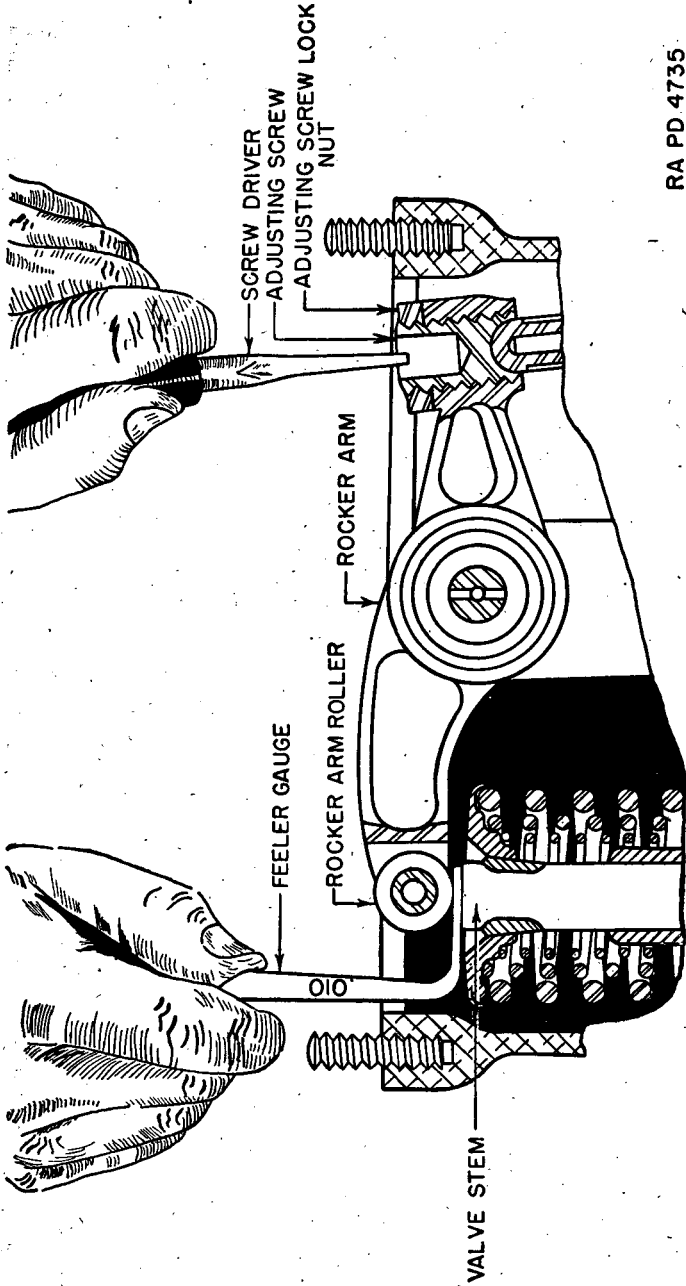

FIGURE 33.—Adjusting valve clearance, Continental engine.
(3) *Valve adjustment* (fig. 33) (engine out of vehicle).—(a) Remove front set of spark plugs to facilitate turning crankshaft.
(e) Loosen adjusting screw lock nut (fig. 33).